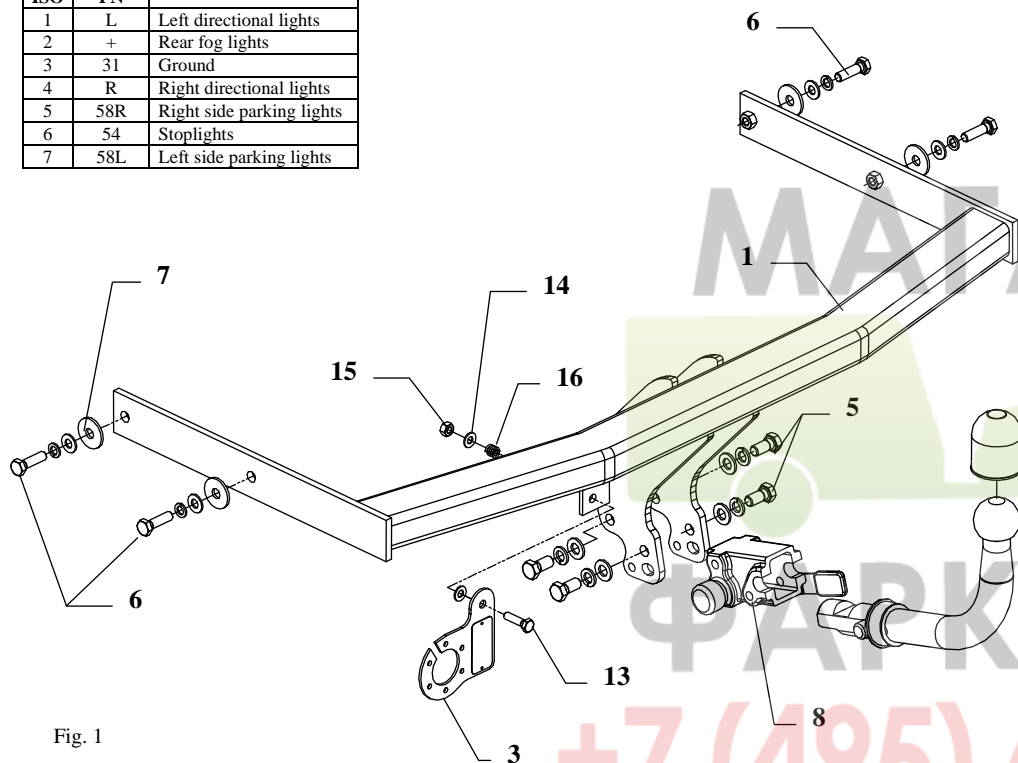

Fig. 1
3. Slide the main bar of the hitch (pos. 1) into the chassis and then fix with M10x35mm (pos. 6) bolts with washers (pos. 7) from the towbar accessories.
4. Fix body of the automat (pos. 8) using bolts M12x25mm (pos. 5) from accessories. Place tow-ball (pos. 2) according to supplied instruction.
5. Fix socket plate (pos. 3) according to fig. 1.